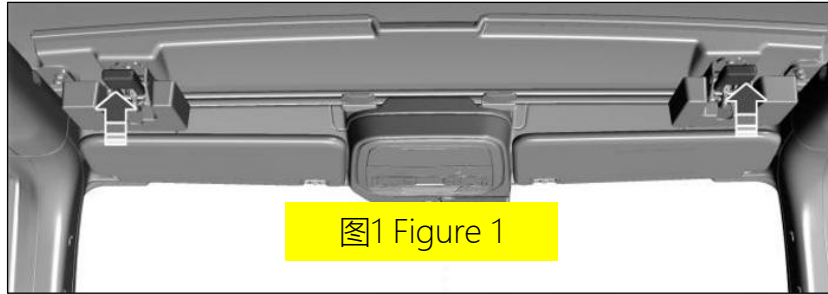

图1 Figure 1
1. 松开图1 接头处的两个锁扣，向上抬升软顶。 Release the two latches at the joint in Figure 1 and lift the soft top upwards.